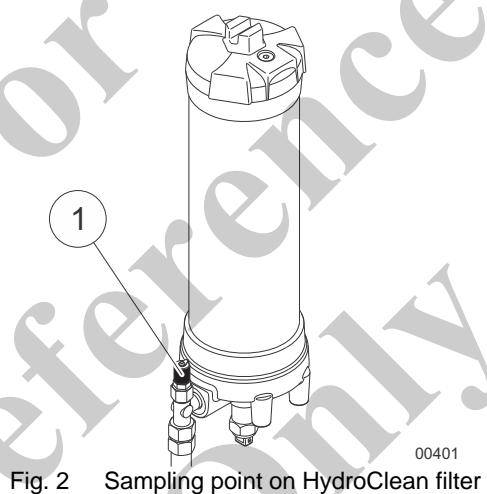

Fig. 2 Sampling point on HydroClean filter
Take the sample from the measurement connection (1) in Fig. 2 on the HydroClean filter.